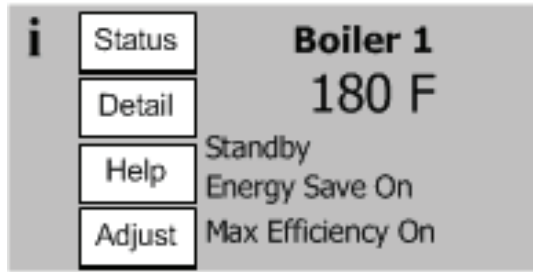
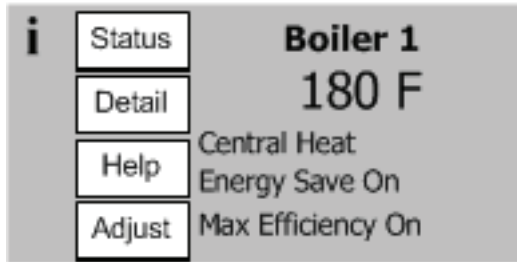

Figure 11.2a: Home Screen at Power-Up (No Call for Heat)
Figure 11.2b: Home Screen on Heat Demand
- 11) Start the boiler using the lighting instructions on page 101. With the boiler powered up, and with no call for heat, the display should look like Figure 11.2a. Once a call for heat is present, it will look like Figure 11.2b.